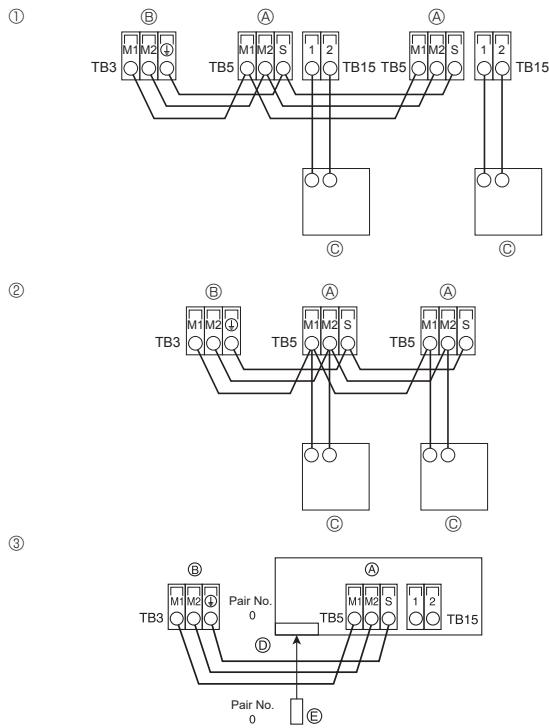

Fig. 6-3
6.4. Connecting remote controller, indoor and outdoor transmission cables (Fig. 6-3)
- ① MA Remote controller
- ② M-NET Remote controller
- ③ Wireless remote controller